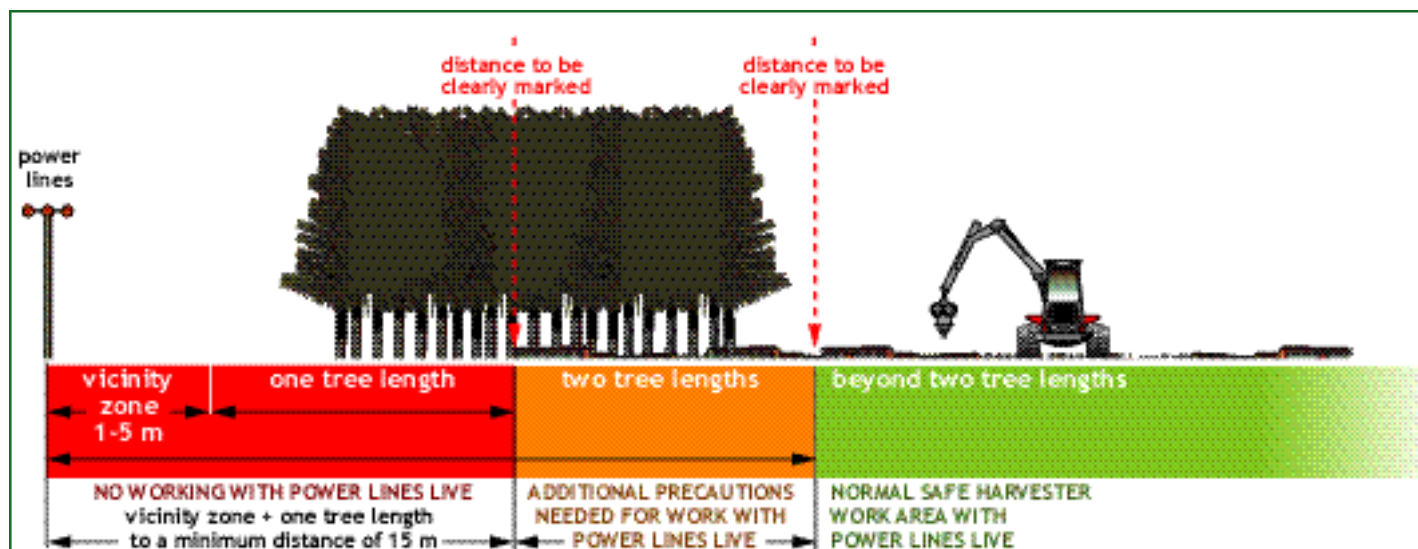

Figure 1 Mechanical harvesting near overhead power lines
- Clearly mark the limit of normal working (**two tree lengths**) and the limit of work with the power lines energised (**one tree length + the vicinity zone**). Marked trees, high-visibility tape or another suitable marking method should be used as well as organised felling and extraction routes (see Figure 1).